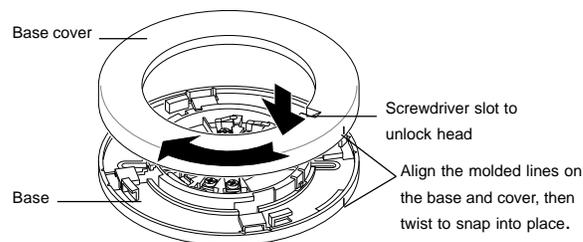

Figure 4. The 6" diameter mounting base
The 6-inch diameter bases have two parts; the base itself that mounts to the electrical box or ceiling, and the base cover that conceals the mounting screws (see Figure 4). The 6-inch diameter bases are shipped loosely coupled to the base cover.
1. Mount the base. Align the molded line on the base with the base cover, and twist clockwise to snap in place. To remove the base cover, simply twist counter-clockwise to unsnap (see Figure 4).